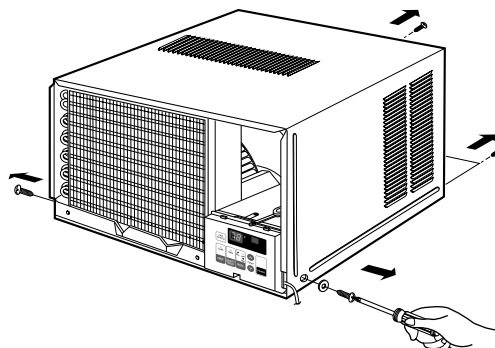

Figure 15
3. Pull the base pan forward. (See Figure 15)